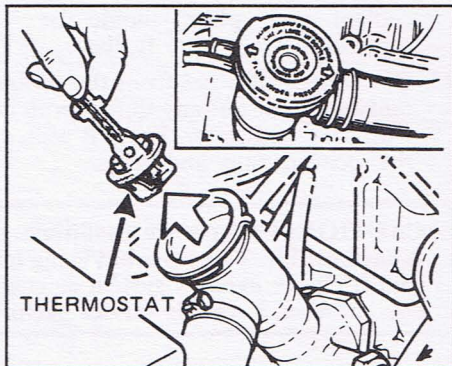

Figure 2 - Removing thermostat
4. Pull the thermostat straight out. See Figure 2.